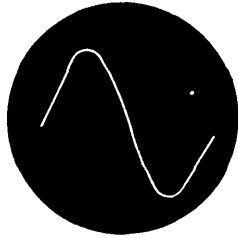
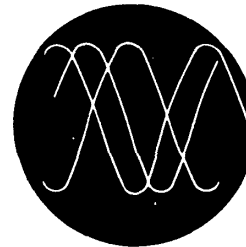
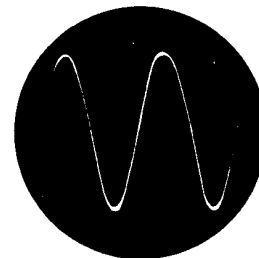

Figure 4-3. Adjustment Pattern
Figure 4-4. Adjustment Pattern
Figure 4-6. Adjustment Pattern
(d) Gradually adjust the SYNC AMPLITUDE control until the pattern locks in and is stationary as shown in figure 4-3. Figure 4-4 shows the pattern approximately as it will look before the wave "locks in." The start of the pattern may be shifted from the positive to the negative peak by turning the SYNC AMPLITUDE control from the positive side to the negative side.
(f) Gradually adjust the SYNC AMPLITUDE control until the pattern locks in and is stationary as shown in Figure 4-3. Figure 4-4 shows the pattern approximately as it will look before the wave locks in. The start of the pattern may be shifted from the positive to the negative peak by turning the SYNC AMPLITUDE control from the positive side to the negative side.
(e) Gradually adjust the SYNC AMPLITUDE control until the pattern locks in and is stationary as shown in figure 4-3. Figure 4-4 shows the pattern approximately as it will look after the wave locks in.
When the foregoing procedure results in synchronizing one cycle of the sine wave on the screen of the scope, the sweep frequency is equal to the frequency of the wave under observation. If, by turning the SWEEP VERNIER control in the direction of lower frequency, two complete sine waves appear on the screen, the sweep is then half of the observed frequency. The operator should practice using the SWEEP RANGE and SWEEP VERNIER controls by adjusting the sweep frequency to display two or more complete cycles of the sine wave. Two complete cycles of a sine wave are shown in figure 4-6. Multiples of the pattern shown in figure 4-3 can be displayed by the following procedure:
h. USE OF THE X AND Y GAIN CONTROLS.-If the X GAIN is increased to maximum, the horizontal deflection can be expanded to the point where part of the horizontal deflection is off the screen, or outside the limits of the three-inch face of the tube. In this way, a waveform can be magnified until only a portion of the pattern fills the display area on the tube face. This procedure can be used to observe a possible flattening of the peaks of the waveform shown in figure 4-6. Figure 4-7 shows the waveform of 4-6 magnified in this manner. If the portion of the wave that one desires to observe is spread off the screen in this process, it can be